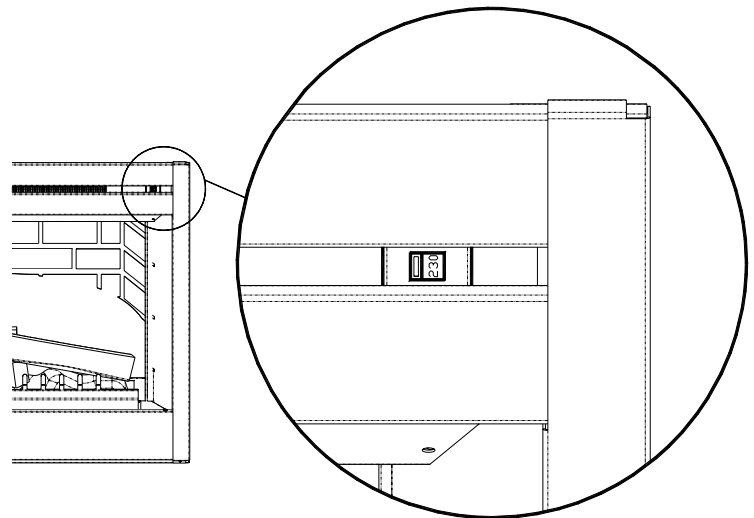
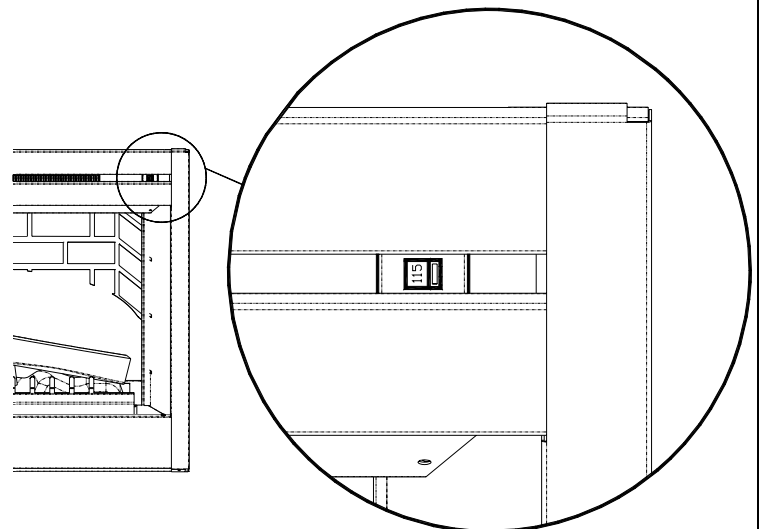

FIGURE 1
FIGURE 2
6. Unit is factory wired for 208/240 volt power supply (**see figure 1 on page 3**). If 120 volt operation is required, slide the switch and reconfigure the wiring (**see figure 2 on page 3**). Wires L1, L2, N & G are attached to the rear of the junction box cable clamp for easy access.
When wiring the unit for 208 / 240 volts the voltage selector switch should be in the 230 volt position. (see figure 1)
When wiring the unit for 120 volts the voltage selector switch should be in the 115 volt position. (see figure 2)
1. Locate the voltage selector switch inside the exhaust panel on the top right hand corner of the unit. (see figure 1 on page 3)
1. Locate the voltage selector switch inside the exhaust panel on the top right hand corner of the unit. (see figure 2 on page 3)